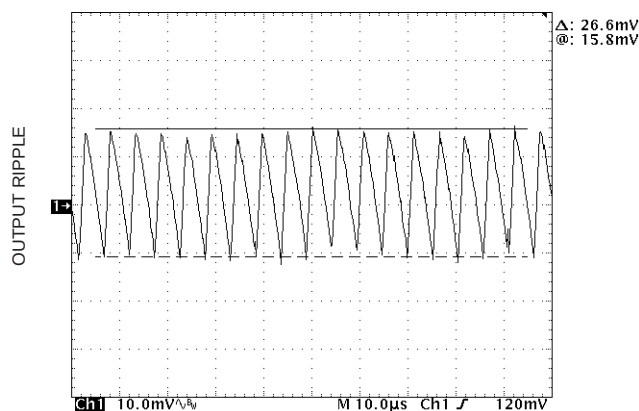
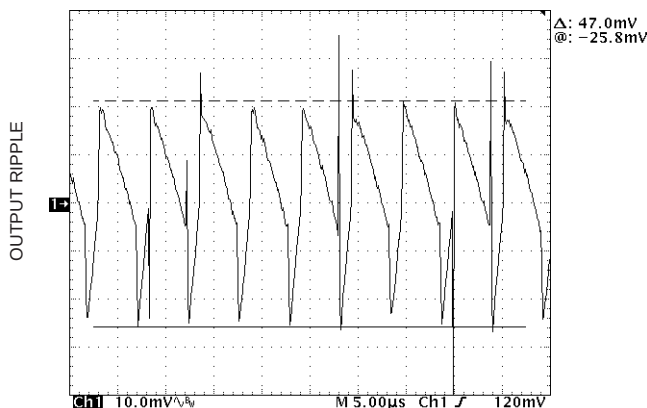

Figure 3a. Output Ripple, Modified Probe
Figure 2a. Output Ripple, Unmodified Probe
9. Use Figure 3a as a reference for an output voltage ripple waveform.
Figure 2a shows what the output ripple looks like with an unmodified scope probe.
Figure 3a shows the output ripple when using a modified scope probe.
Figure 3c shows the scope probe disassembled before the handmade copper ground lead is wrapped around the ground shield. Notice that the probe has been partially disassembled to expose the oscilloscope's ground shield. A modified ground lead was created by carefully wrapping a piece of *malleable* copper wire around the probe's exposed ground shield. A short ground lead is important because it behaves like an antenna and picks up RFI (radio frequency interference) typical of a switching power supply. The proof is in the pictures. Figure 3a was measured correctly and had only 26mV of output ripple versus Figure 2a with over 47mV of output ripple. Note the above procedure does not guarantee a correct reading if the probe is out of calibration or the probe is not modified correctly.